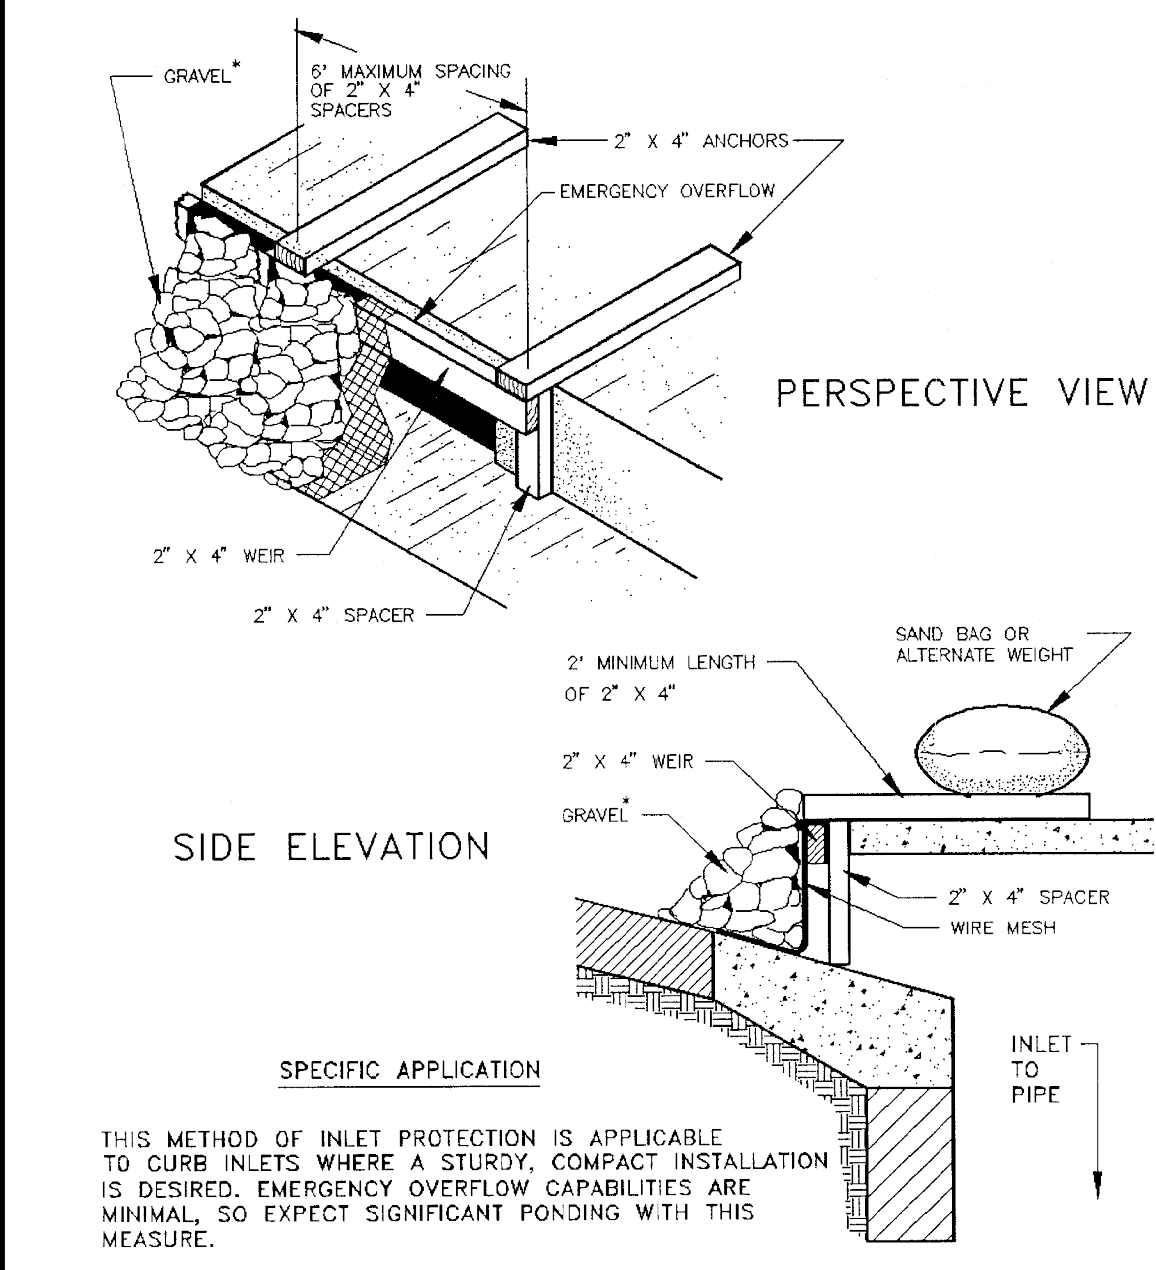

Figure 1-37 Wooden Weir Curb Inlet Protection (VA Dept of Conservation, 1992)
- Attach a continuous piece of wire mesh (30-inch minimum width x inlet throat length plus 4 feet) to the 2-inch x 4-inch wooden weir (with a total length of throat length plus 2 feet) as shown in Figure 1-37. Wood should be "construction grade" lumber.